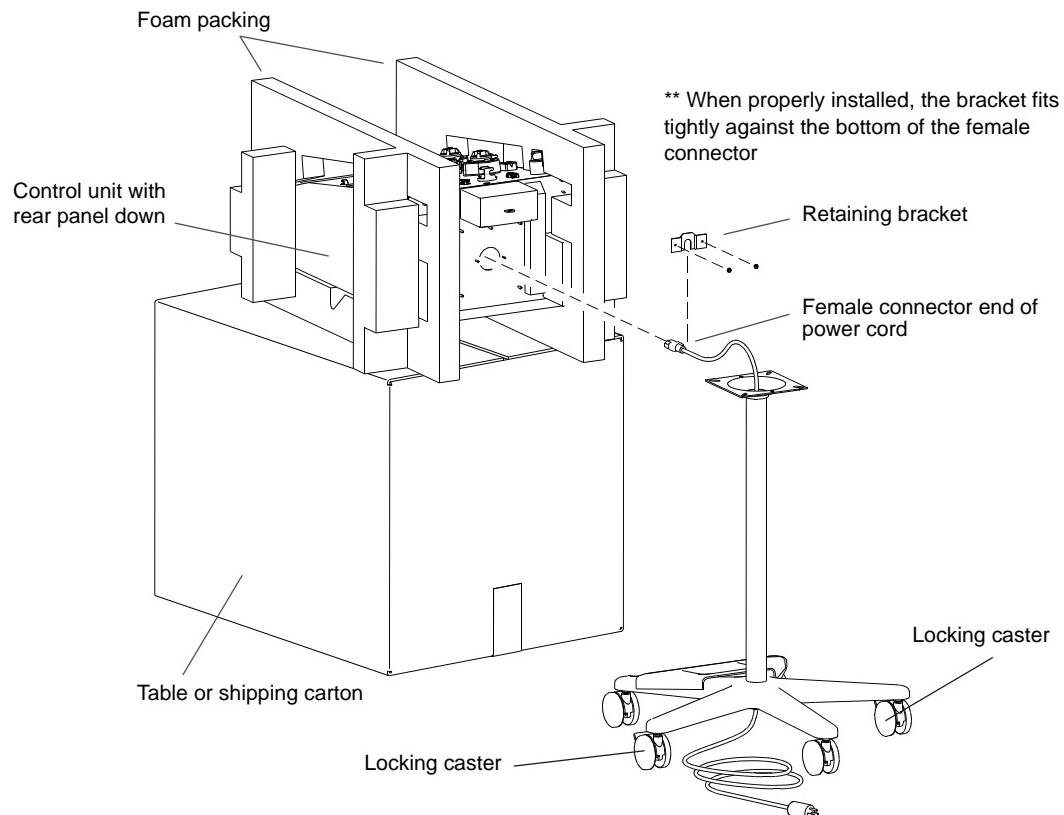

Figure 4. Connecting Power Cord to the PRISMA Control Unit
3. Place the control unit on a table on its rear panel, keeping foam packing in place (See Figure 4).
4. Select the appropriate power cord and retaining clip. With the column/base assembly standing upright, start at the bottom and thread the female connector end of the power cord up through the column. Allow 1/2 to 1 m (2 to 3 ft) of power cord to extend out the top of the column (See Figure 4).
5. Move the column/base with the power cord close enough to the control unit to permit attaching the power cord to the bottom of the control unit. Pass the female connector end of the power cord through the hole in the center of the control unit and plug it into the receptacle inside (See Figure 4).
6. Place the retaining bracket around the power cord.** Secure the bracket to the studs on the bottom of the control unit with the #6 self-locking nuts provided. Tighten the nuts using a 5/16-inch wrench (See Figure 4).